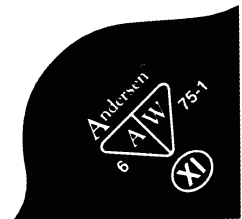

Fig 2. From 1975 on. “1” or “0” designates factory location.
*After 1975* In July 1975 PPG added a “1” or “0” after the year to designate factory of origin (figure 2).